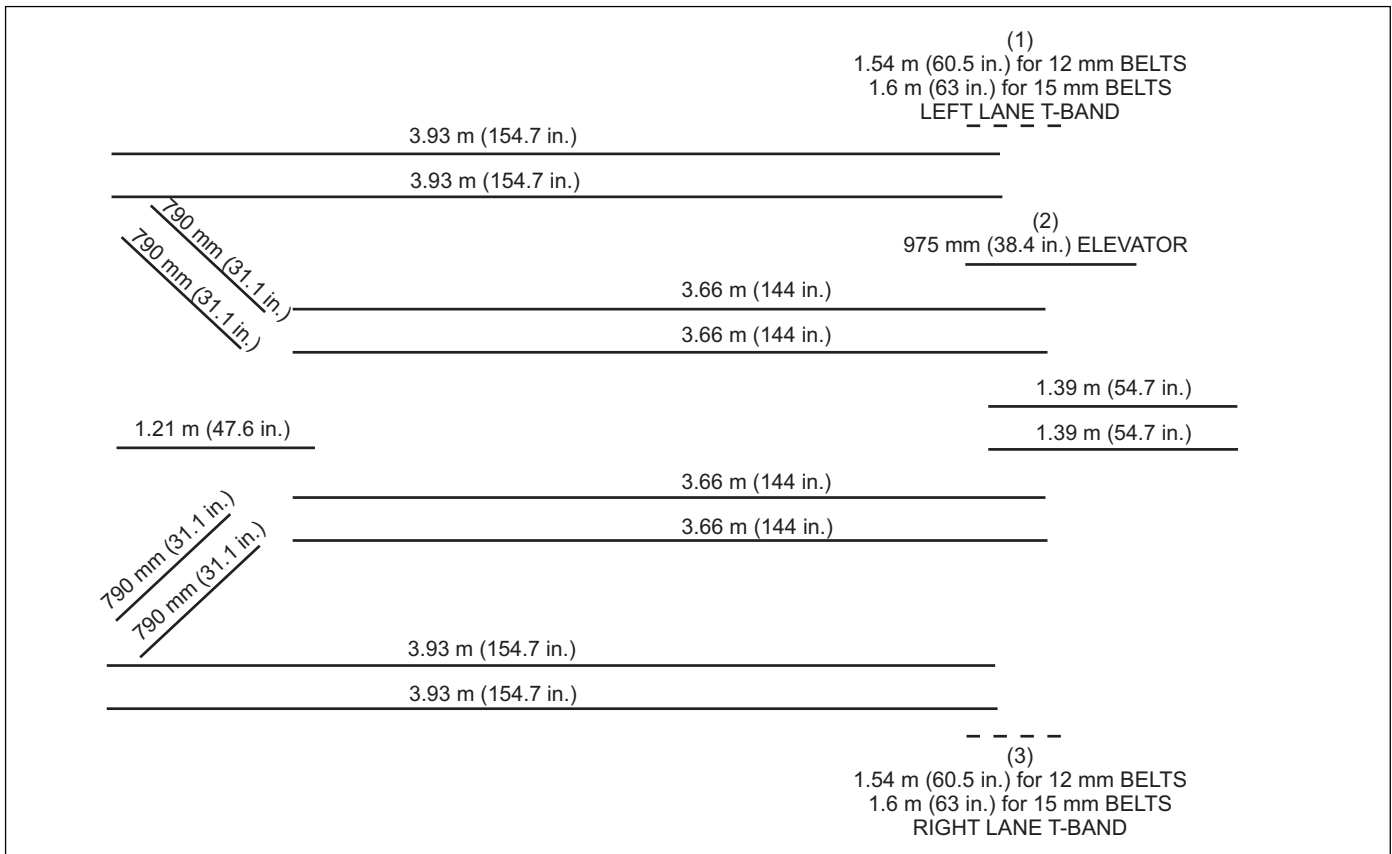

Figure 8-9. Round Belt Lengths.
1. *Figure 8-9* gives nominal lengths of all distributor belts. The dotted lines represent belts that are not factory installed.